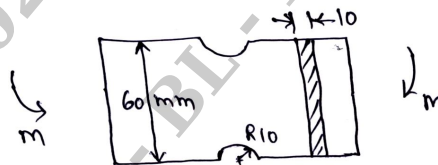

Fig.Q.2(a)
- 2 a. A notched flat plate shown in Fig.Q.2(a) is subjected to bending moment of 10 N.m . Determine the maximum stress induced in the member by taking the stress concentration into account.